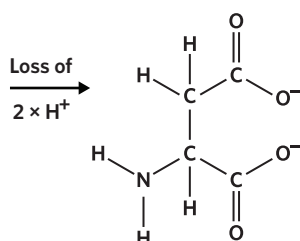
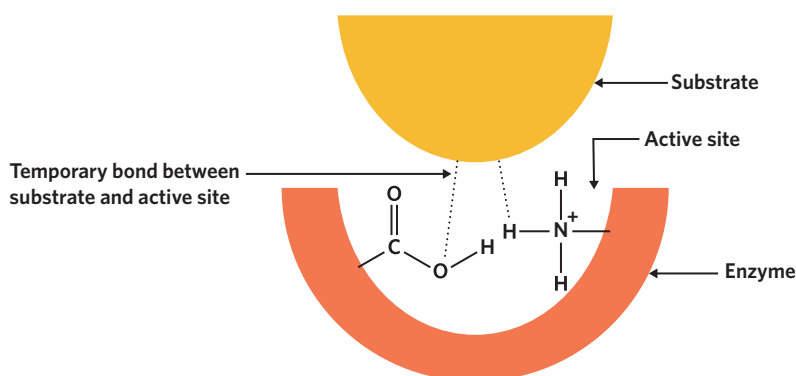

Figure 12 The deprotonation of aspartic acid from figure 11 to give a net charge of -2
Figure 10 Interaction between substrate and amino acid side groups in the active site
As we have learned so far, the active site of an enzyme binds to a substrate. Figure 10 illustrates the important role that the side groups of amino acids play in this temporary act of binding.
As such, in a very basic solution where the pH is greater than 13, each carboxyl group will lose a hydrogen atom, giving aspartic acid a doubly negative charge as shown in figure 12. This process, known as **deprotonation**, occurs when a large number of OH^- ions are present.
- changes in the charges of the side chains of an enzyme's constituent amino acids, shown in figure 10 and figure 12